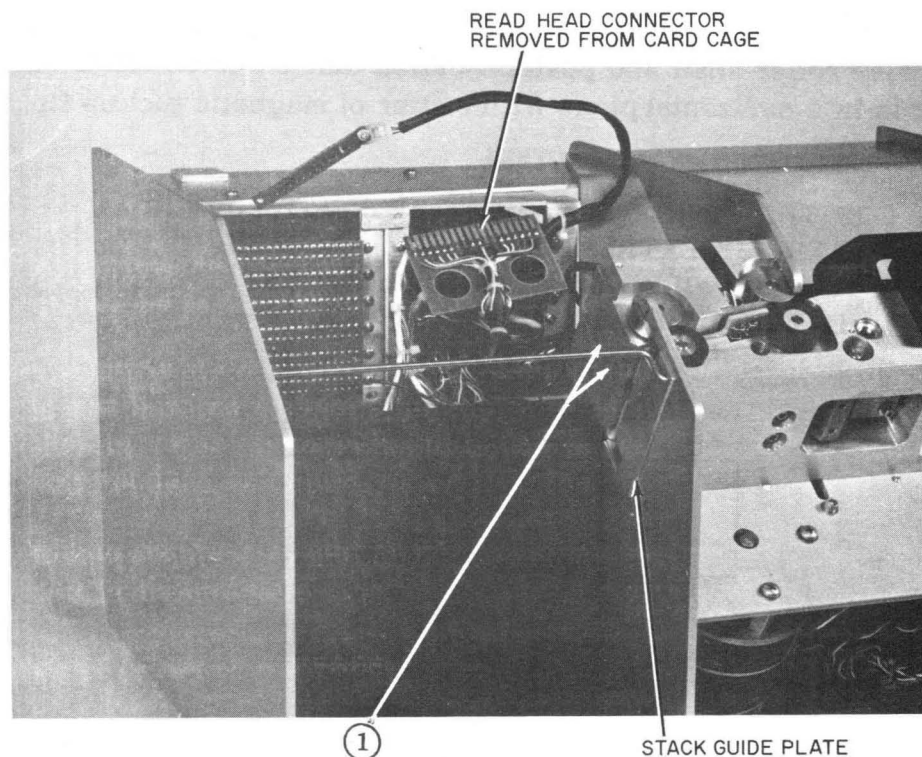

Figure 6-5. Location of Stack Photocell and Photocell Set Screw
- a. Using a 1/16 Allen screwdriver , LOOSEN the set screw in the stacker casting which retains the stack photocell ① , figure 6-5.